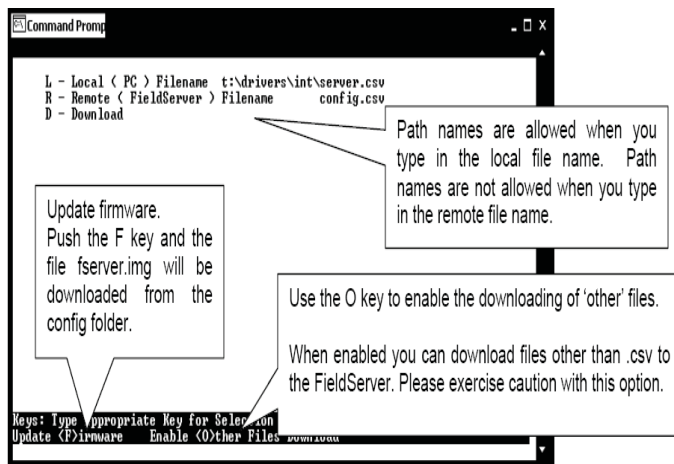

Figure 15: Download new Config.csv file
12.) At the next screen, (**Figure 15**), type <D> again.